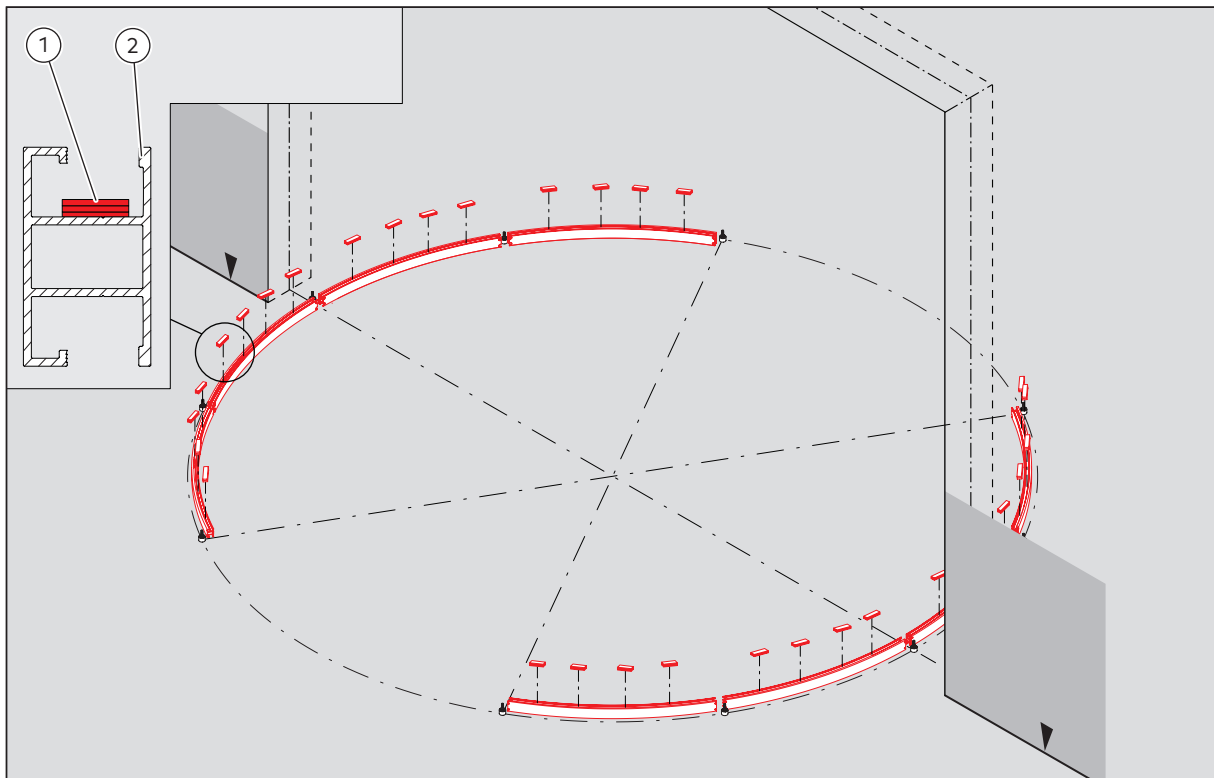

Fig. 28 Mounting the bottom frame
1. Place 4 plastic blocks (Fig. 28/1) on each piece of the bottom frame (Fig. 28/2).